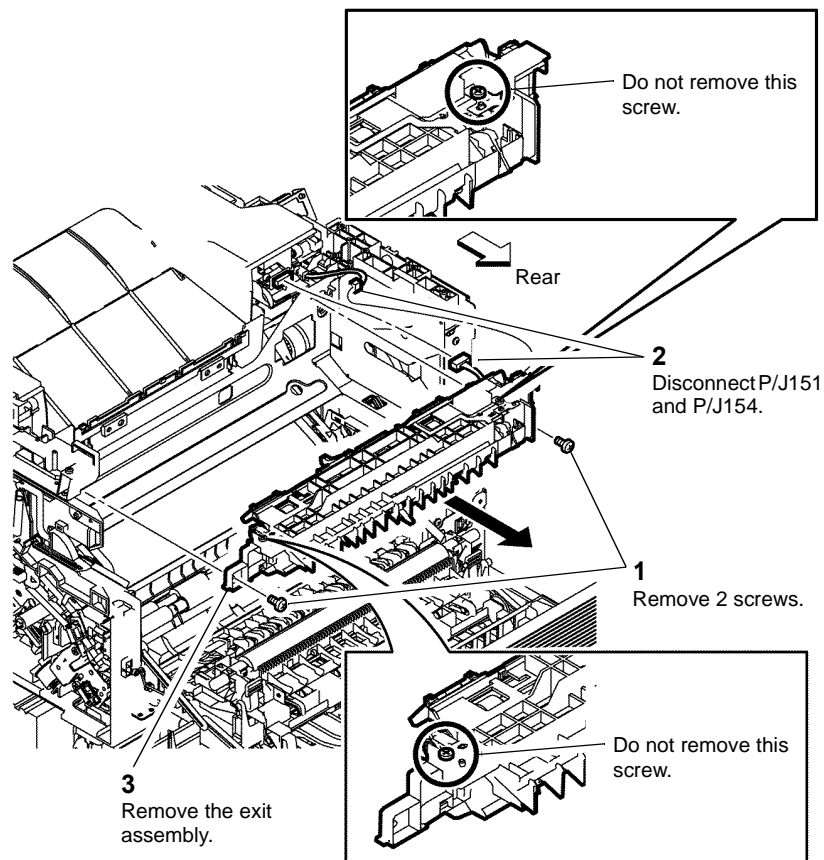

Figure 1 Exit assembly
3. Remove the exit assembly, Figure 1.